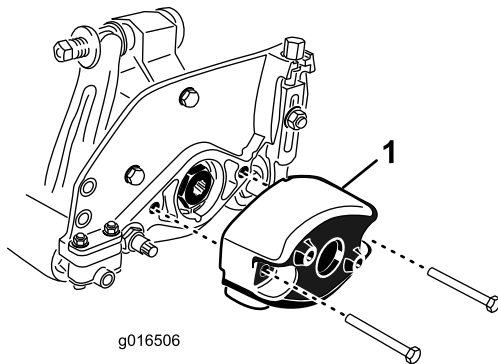

Figure 7
1. Remove the 2 capscrews securing the counter weight to the right end of the cutting unit. Remove the counter weight (Figure 7).